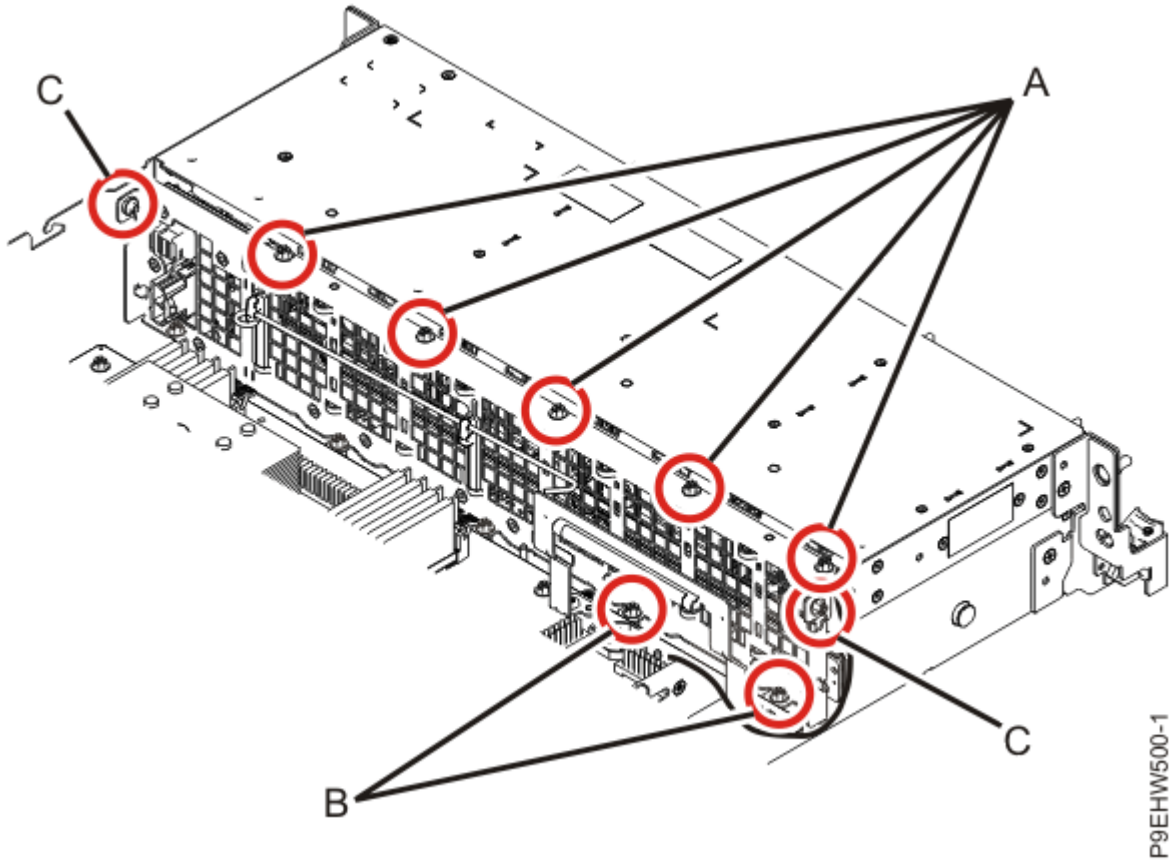

Figure 13. Screw locations for the disk drive and fan card
4. Replace two screws **(B)** for the bottom of the disk drive and fan card. Figure 13 on page 18 shows the screw locations.